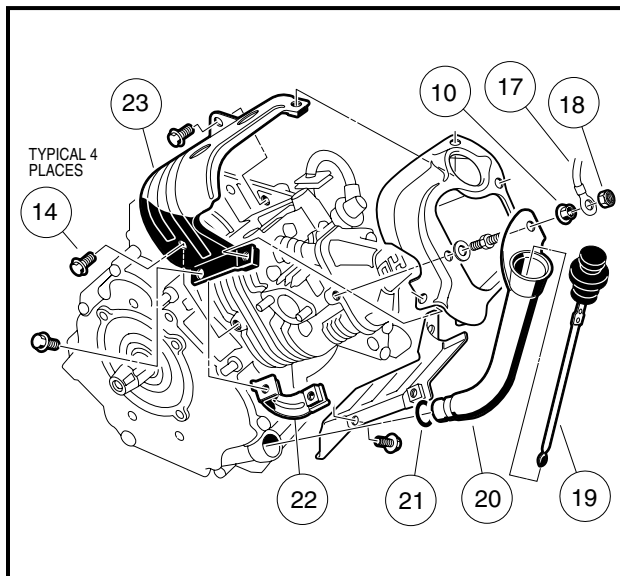
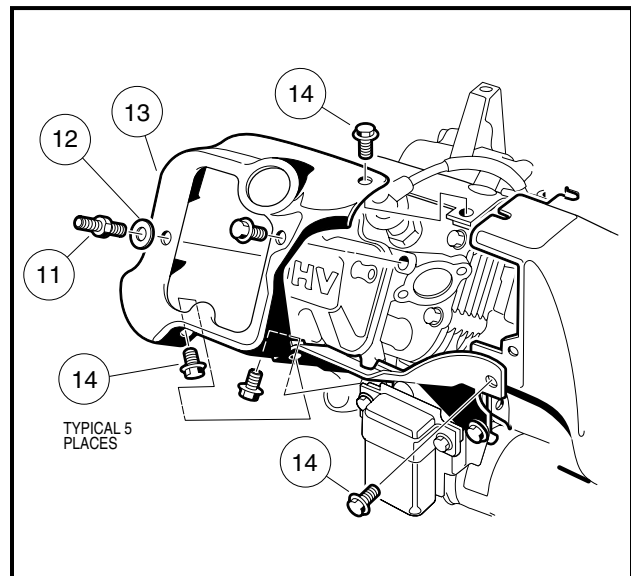

Figure 13-8 Upper Shroud & Oil Filler Removal
Figure 13-9 Head Shroud Removal
11. Disconnect oil filler tube (20) from cylinder shroud by first removing the lock nut (18), ground wire (17) and flange nut (10) and then pulling oil filler tube out of the crankcase cover (**Figure 13-8, Page 13-10**).
12. Remove the nine bolts (14) and two-ended bolt (11) (**Figure 13-8, Page 13-10 and Figure 13-9, Page 13-10**).
13. Take off the head shroud (13), the upper shroud (23) and the bracket (22).